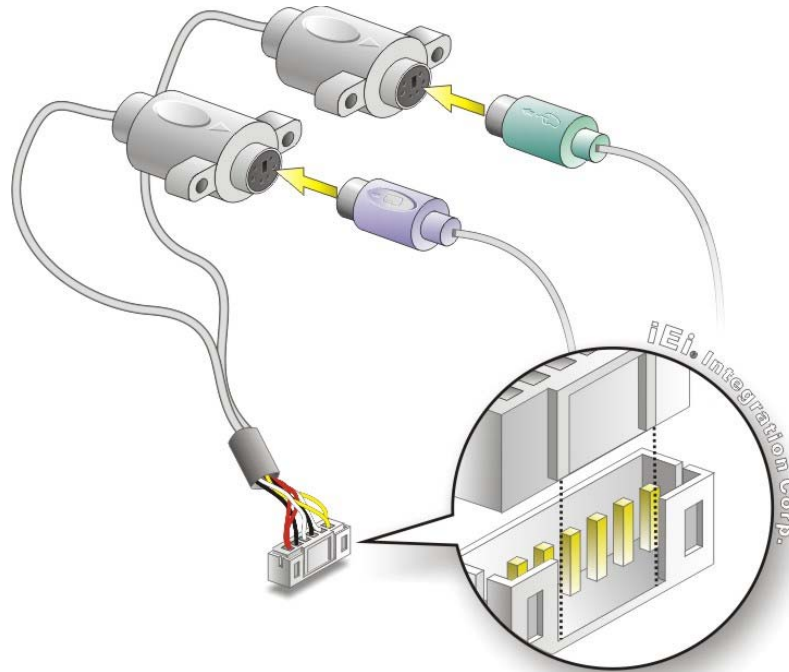

Figure 4-24: Keyboard/mouse Y-cable Connection
Step 2: Align the connectors. Correctly align pin 1 on the cable connector with pin 1 on the WAFER-NM701-1007U keyboard/mouse connector. See **Figure 4-24**.
Step 3: Insert the cable connectors Once the cable connector is properly aligned with the keyboard/mouse connector on the WAFER-NM701-1007U, connect the cable connector to the on-board connector. See **Figure 4-24**.